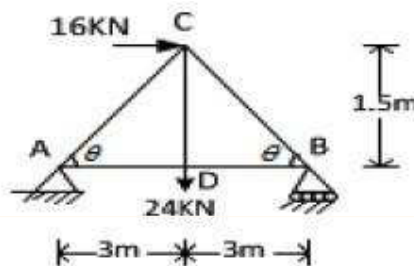

Figure 1
7. Find the forces in the members of truss by method of joints as shown in Figure 1.